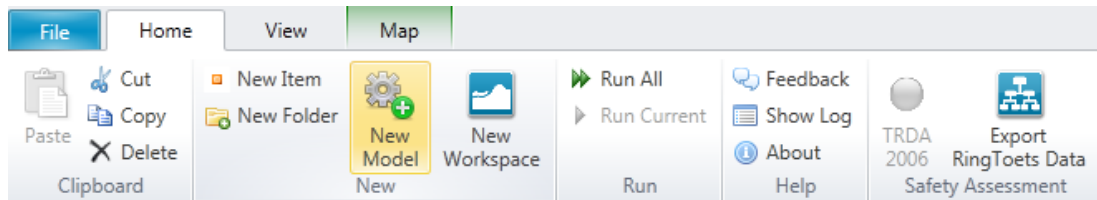

Figure 3.1: MorphAn home tab “New” group with shortcuts to add a new object to the project.
- 1 In the **Home** tab of the ribbon, click **New Folder**, **New Item** or **New Model** (see Figure 3.1).